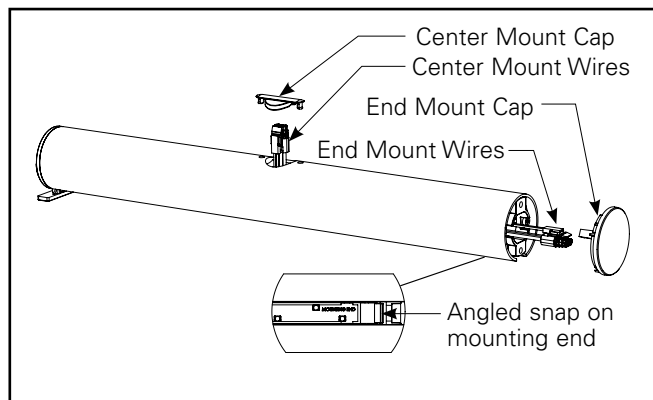

Figure 2.
6. Determine the intended mounting method, this will dictate which location you will pull the internal wire harness out of. (See Figure 2). If mounting using end-mount, remove the End Mount Cap from the mounting end of the cylinder and pull the wires out of the housing at this location. (You can identify the mounting end of the cylinder by examining the PCBA and locating the text "Mounting End." See Figure 6) If you are ceiling or wall mounting remove the Center Mount Cap and pull the wires out of the housing at this location. Ensure you are choosing the correct set of wires before pulling them out of the housing as reversing this process can be difficult.
1. Open the box containing your ARCEL Housing and remove the unit and its accessory bag. Review the parts in the accessory bag. Remove the Center Mount Cap and pull out the Wire Harness (See Figure 2).
1. Open the box containing your ARCEL Housing and remove the unit and its accessory bag. Review the parts in the accessory bag. Remove the Center Mount Cap and partially pull the ARCEL Wire Harness out of the center hole (See Figure 2). Connect the ARCEL Wire Harness to the AC Power Wire Harness. Minimize the amount of excess wire coming out of the top of the housing.